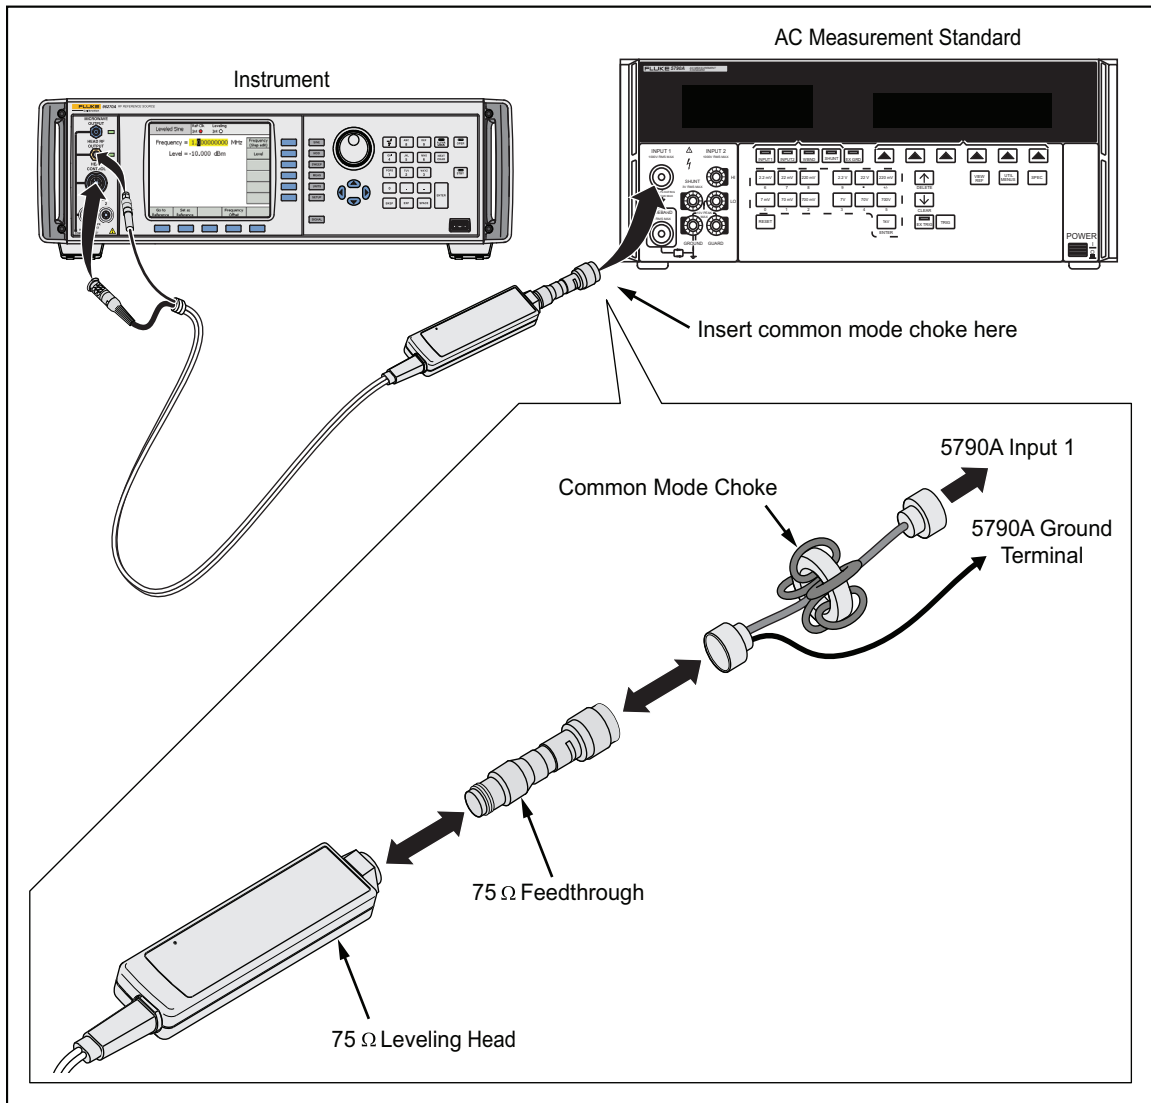

Figure 3-10. 75 Ω Equipment Connections - Leveling Head, Low Frequency Level Accuracy Test Points (96040A and 96270A)
1. Connect the 75 Ω Leveling Head to the INPUT 1 connector on the AC Measurement Standard using a precision 75 Ω feedthrough termination. (If a Type-N feedthrough termination is not available, use a BNC 75 Ω feedthrough termination and appropriate adapters. Ensure that BNC connector contact resistance and repeatability does not significantly degrade measurement uncertainty) Select INPUT 1. See Figure 3-10 for equipment connections.